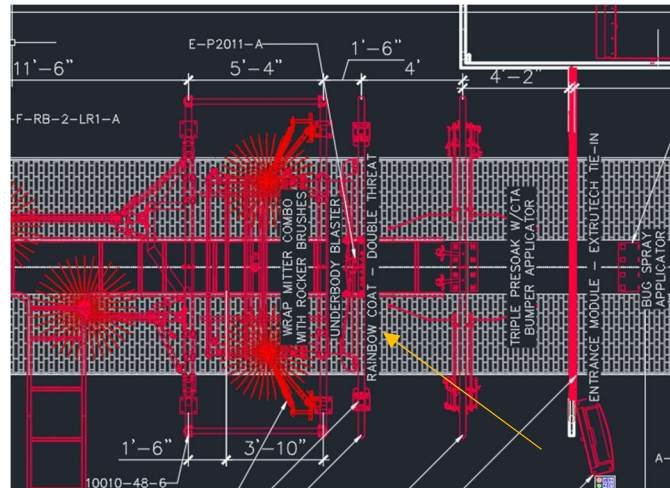

Figure 10. Underbody Manifold Location.
Step 9: The underbody manifold will need to be repositioned in front of Combo 1 and under the Rainbow Coat Arch to prevent reclaim water from spraying into the mitter cloths. Pit grating will need to be shifted to accommodate this. Do not cut pit grating, but get the manifold as close to Rainbow Coat Arch as possible. See Figure 10 below.